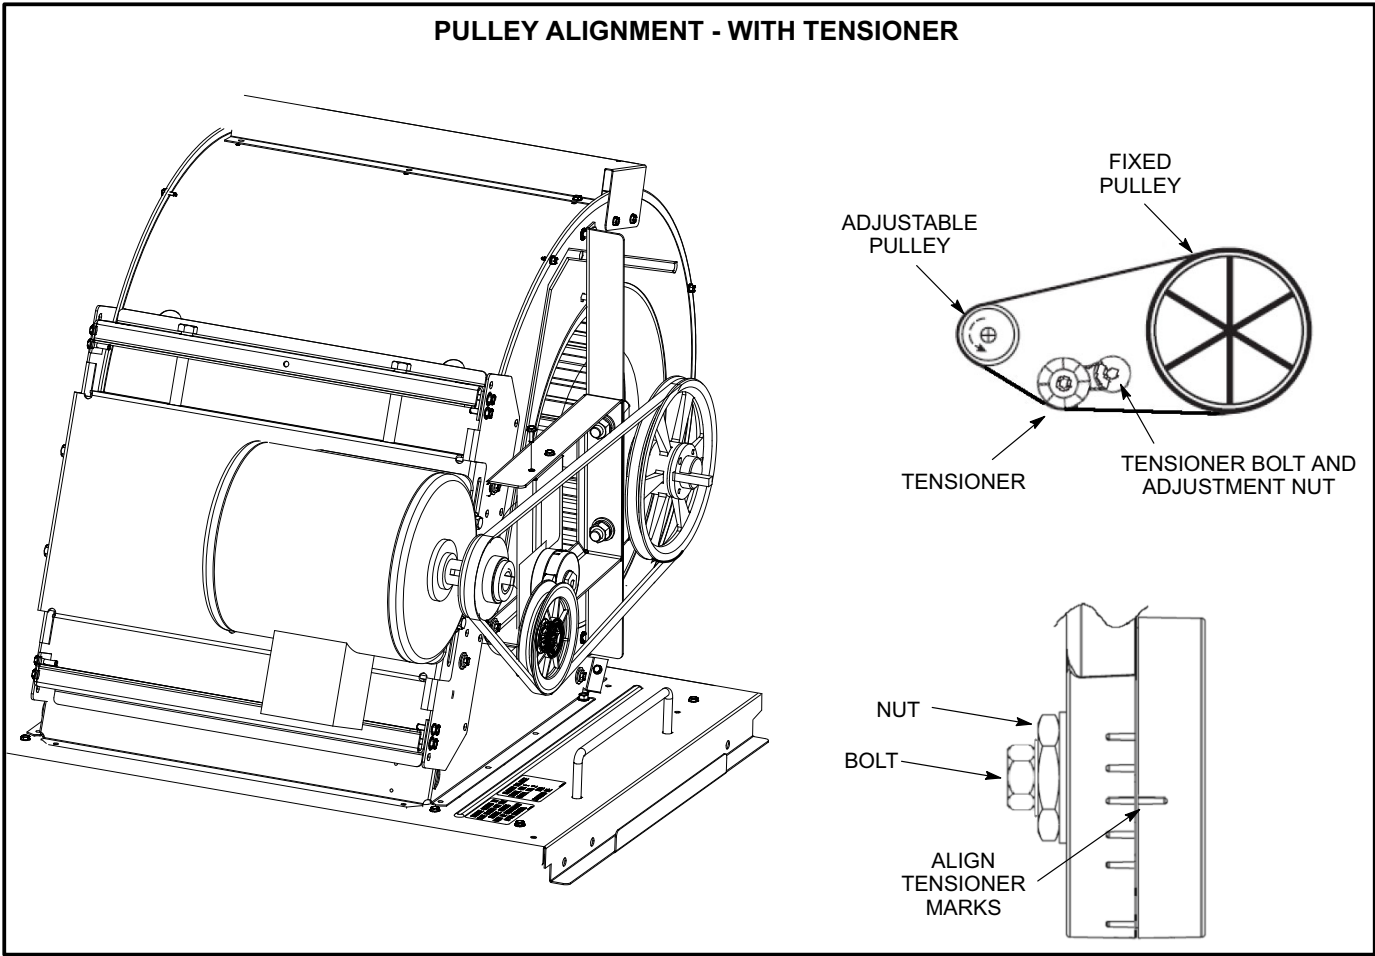

FIGURE 18
- 1- Loosen the bolt in the center of the tensioner. See figure 18.
- 3- Using a 15/16" wrench, turn the tensioner nut until marks align as shown in figure 18.